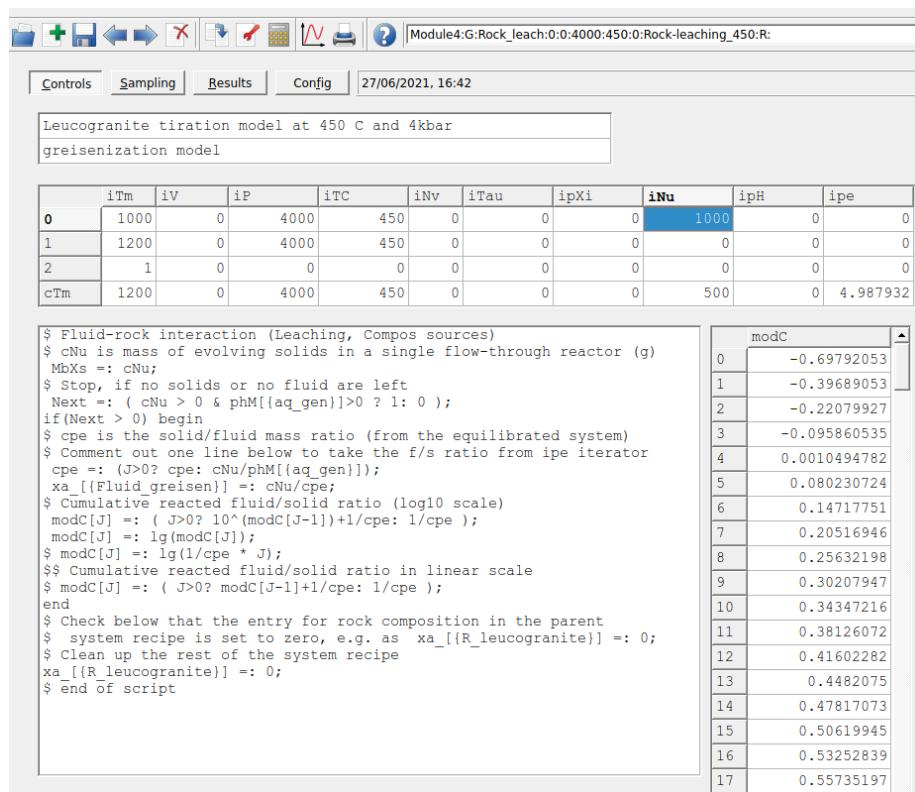

Figure 4.6: Controls window showing the set up for a Process simulation in R mode for the leaching model at 450 °C and 4 kbar.
- Check the **Controls** window; the set up should look like Figure 4.6.